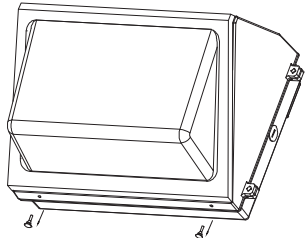

figure 4
**Step 4** Remove the 2 drain plugs from the housing. Close the diffuser door and lock it with the 2 diffuser door screws. (figure 4)